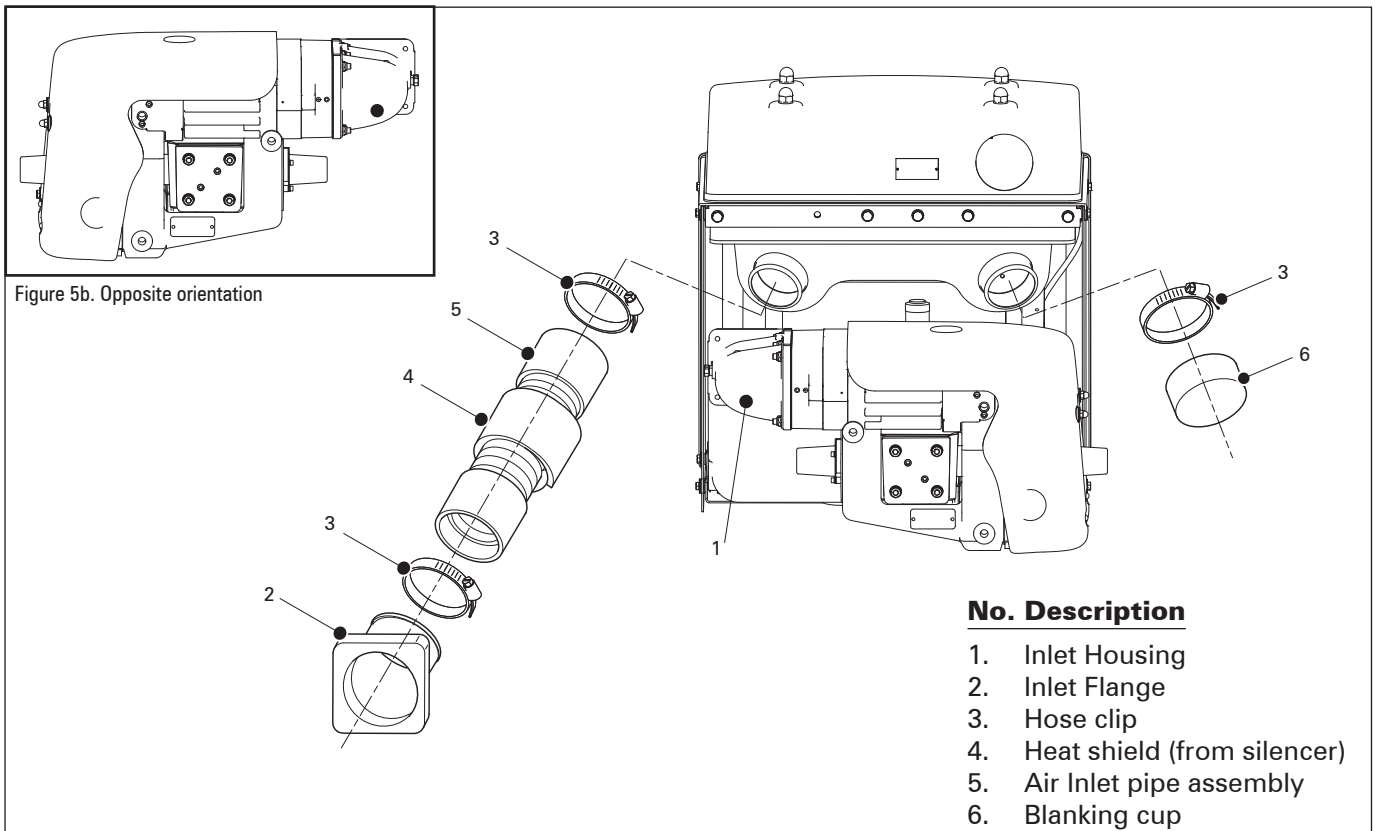

Figure 5a - Cooler module to compressor air inlet connection
If the opposite compressor input rotation is required, the machine is rotated to the other orientation (fig 5b) and items 1 to 6 (fig 5a) swapped over to the other connections at the same time.